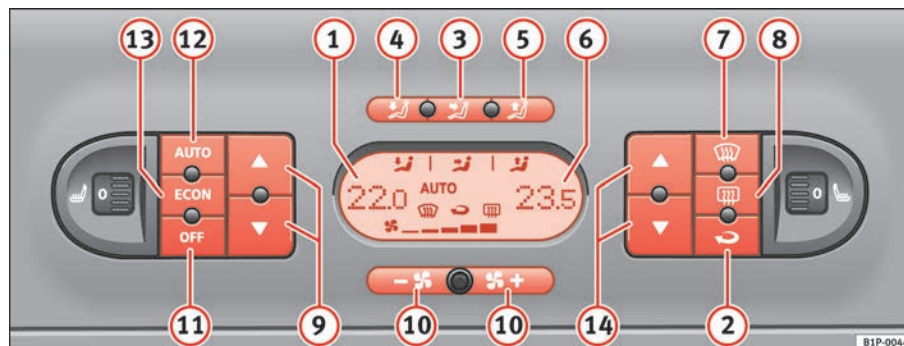

Fig. 112 On the dash panel: 2C Climatronic controls
- To enter manual mode, press one of the buttons ⇒ fig. 112 ③ to
⑤, **ECON** or press the air flow control ⑩. The symbol **AUTO** will disappear from the display. ▶
- Press the button  ⇒ page 149, fig. 112  to switch air recirculation mode on or off. It is switched on if the following symbol appears in the display .